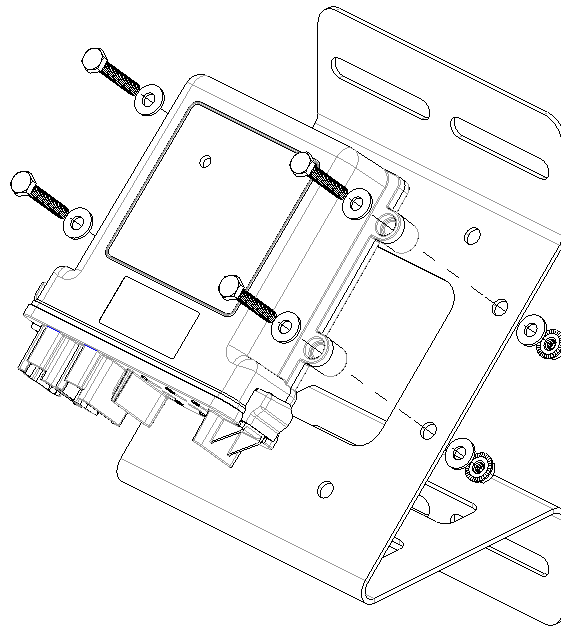

Figure 12: Installing the Gateway 300
2. Secure the gateway to the mounting bracket using the provided screws (356060-000033), washers (352012-000002), and nuts (356060-000075) as shown in Figure 12.